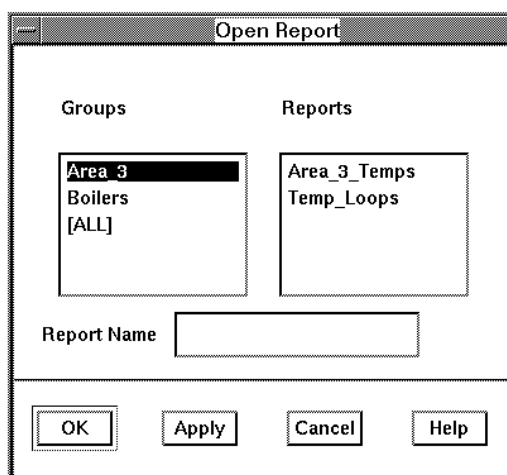

Figure 4-3. Reports Shown for Selected Group
- b. Select the group whose report object instance you want to open, Figure 4-3.